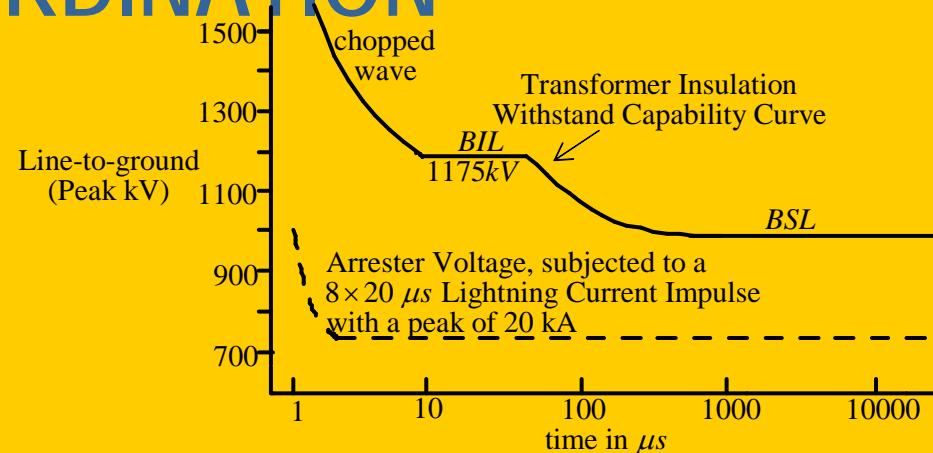

Fig. 14-7 A 345-kV transformer voltage insulation levels.
- In power systems apparatus, their insulation is protected against voltage impulses by means of surge arresters. The role of surge arresters is similar to that of Zener diodes in low power electronic circuits. Surge arresters appear as open-circuit at normal voltages and draw almost negligible current. However, they allow whatever current that needs to flow, of course within their rating, thus “clamping” the voltage across the device being protected to a threshold voltage plus a small IR current-discharge voltage, as shown in Fig. 14-7.